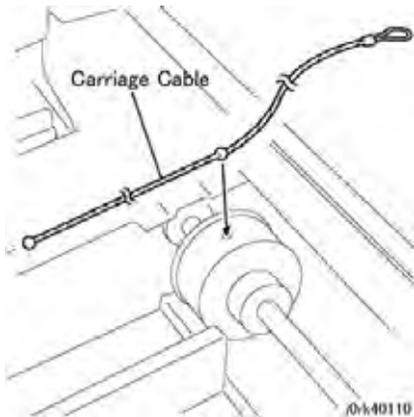

Figure 6 Carriage Cable
1. Insert the ball of the Carriage Cable into the groove of the pulley (Figure 6)